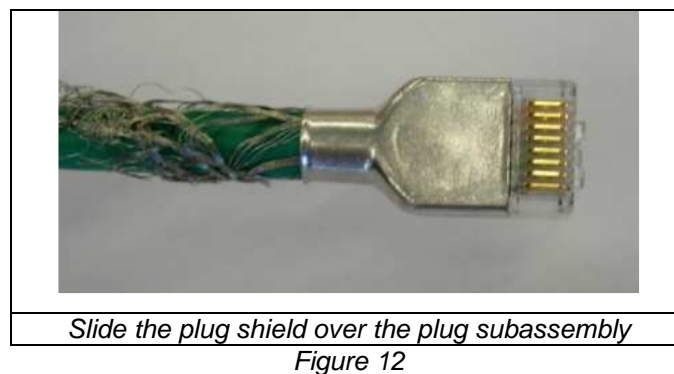

Figure 12
- Reassigned Figure 12 to 19.
1. Slide the plug shield over the plug subassembly until it seats against the front edge of recessed area around the outside of the plug housing. See figure 12.